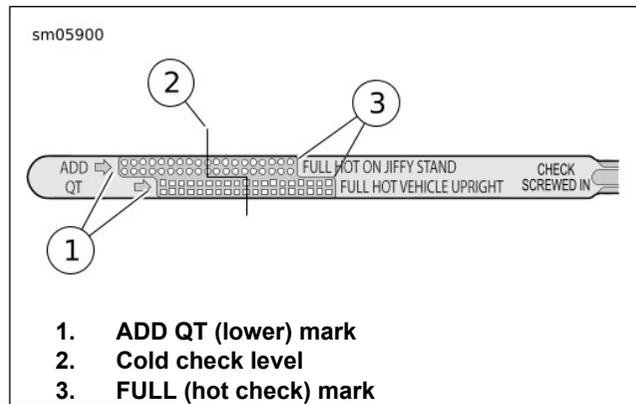

Figure 41. Engine Oil Dipstick
3. See Figure 41. Remove the dipstick and verify the level of the oil. The correct oil level should register midway (2) between the FULL and ADD marks on the dipstick.
4. See Figure 41. Remove the dipstick and note the level of the oil. The level should be between the ADD (1) and FULL (3) marks. Add oil as necessary to bring the level to the FULL mark on the dipstick. Do not overfill.